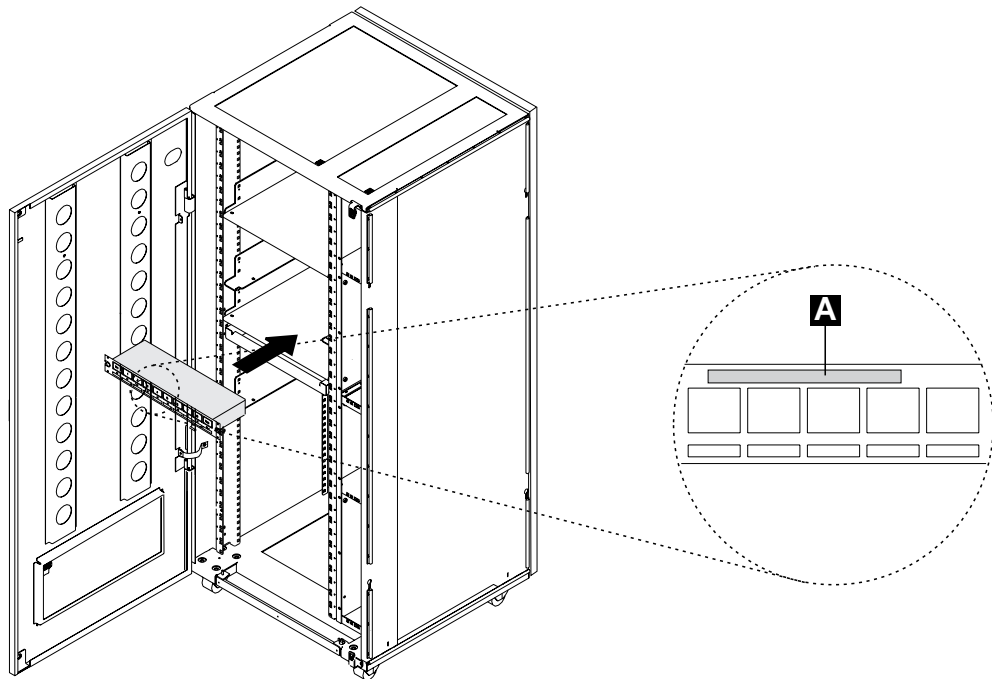

Figure 4-3. Installing the 8228 (Controller Expansion Rear Side)
- a. \_\_\_ Install the 8228 on the rear side of the controller expansion using two screws (PN 1621232) and two captive nuts (PN 58G5766) see Figure 4-3.